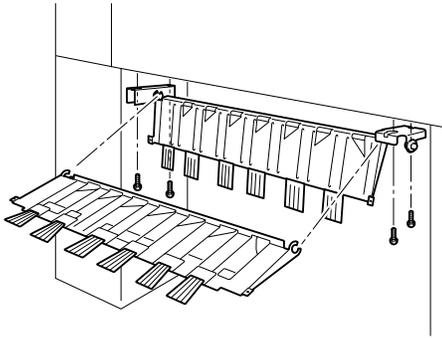

Figure D-5
8. Install the inner swing guide assembly and mounting brackets (four screws) to the upper frame as shown in Figure D-5.